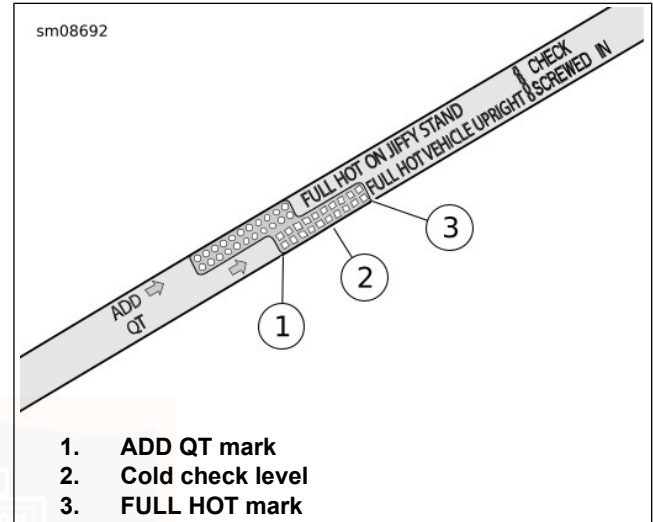

Figure 61. Engine Oil Dipstick (VEHICLE UPRIGHT Gauge)
- e. See Figure 61. Check oil level. The correct cold oil level is midway (2) between the ADD QT (1) and FULL HOT (3) marks on the dipstick.
5. Check oil level. Add only enough to bring level midway between the ADD QT (1) and FULL HOT (3).
- e. See Figure 61. Check oil level. Oil level must register between the ADD QT and FULL HOT marks on the dipstick.